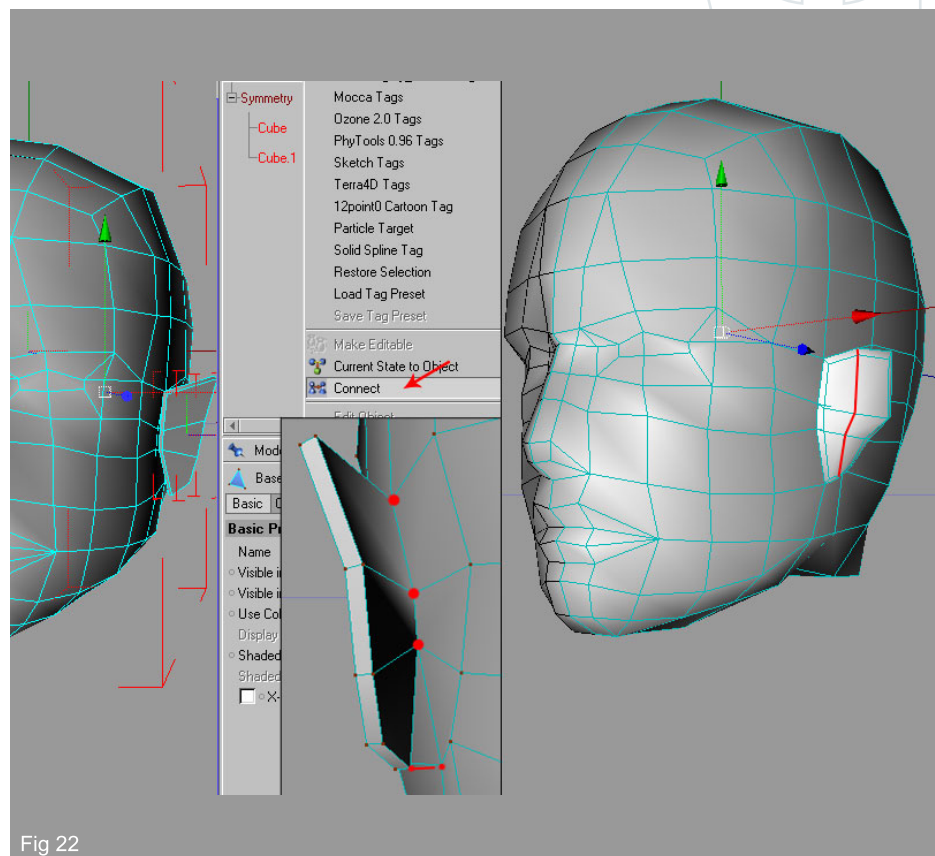

Fig 22
22. To connect the ear to the head, move it into position as shown in Fig 22. Now connect the two objects by selecting them in the Object Manager, right clicking and choosing "Connect" from menu. This will create a new object so delete the previous objects and drag the new one in the Symmetry. Now weld the vertexes as shown on the bottom of the image. To give the ear a better shape scale the outward faces down a little and then add in a vertical subdivision using the "Ring Selection" tools and move the extra verts to form more of a curve to the outside.